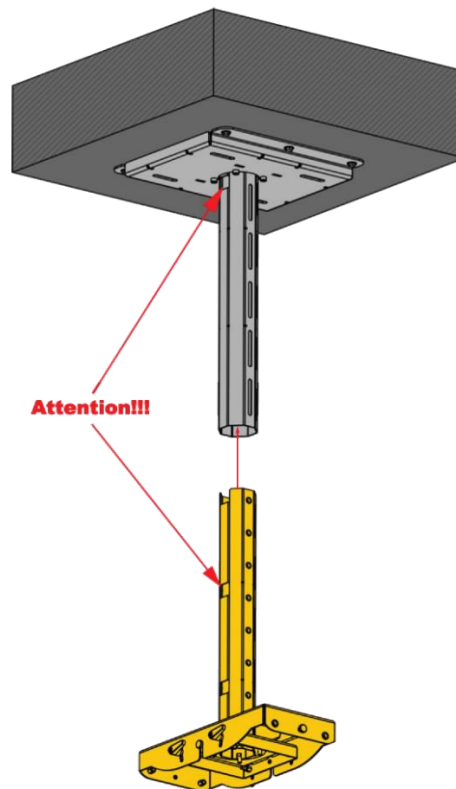

Figure 89: Step 8
Step 8: Insert the lower tube ③ into the upper tube ②. Please note that for correct alignment/installation of the upper and lower tubes, the rectangular holes must match, as shown in **Figure 89**.